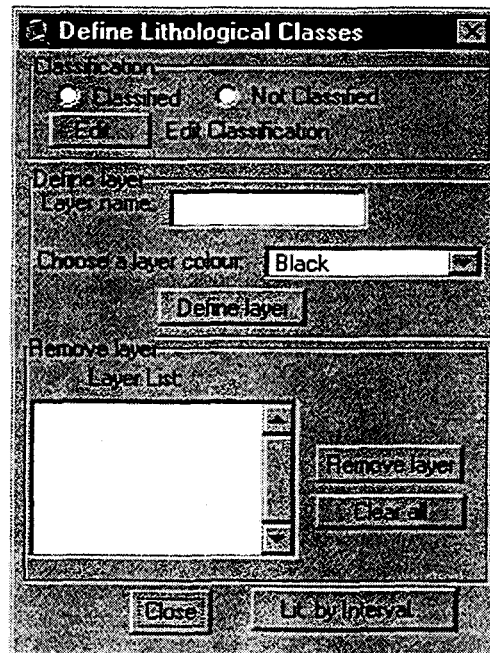

Figure 16 Define Lithological Classes Dialog.
When selecting the "Depth Interval" option, a new view "Horizontal-slice" is created, and the "Define Lithological Classes" dialog box is opened, see Figure 16. Here the user can choose to classify the lithology in up to five groups or define layers. If the user classifies the lithology in groups these groups will act as layers, otherwise a number of layers has to be defined. Each of the defined layers will represent one zonation.
- Press the **Close button** to close this dialog box and return to the **Define Lithology Classes** dialog box, see Figure 16.
**Close:** Return to the **Define Lithological Classes** dialog box, see Figure 16.